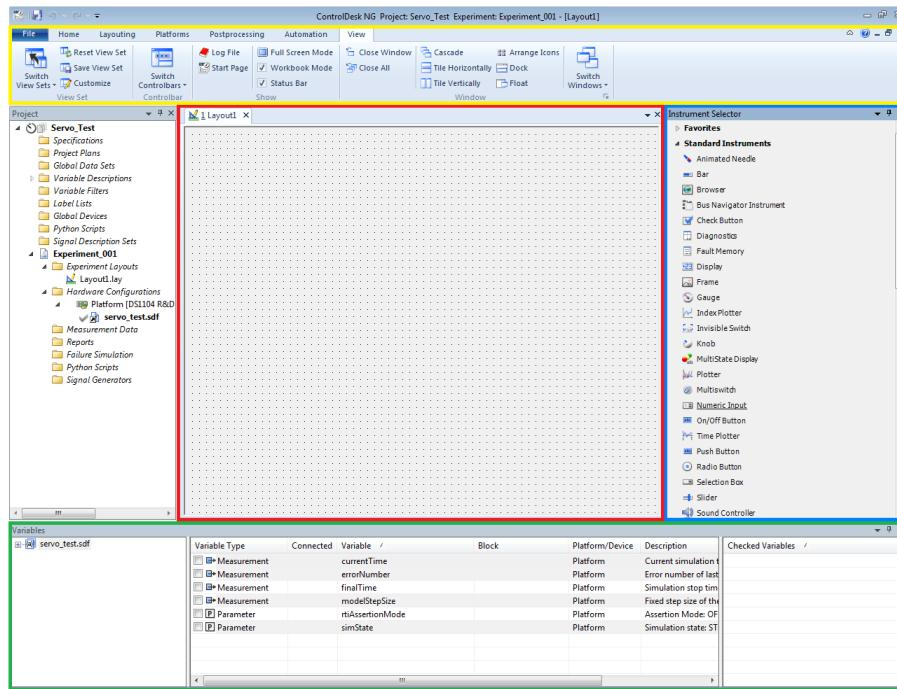

Figure 48: ControlDesk window
6. The software offers a variety of tools and options. The ones of interest are highlighted with colors in figure 48, are described below: